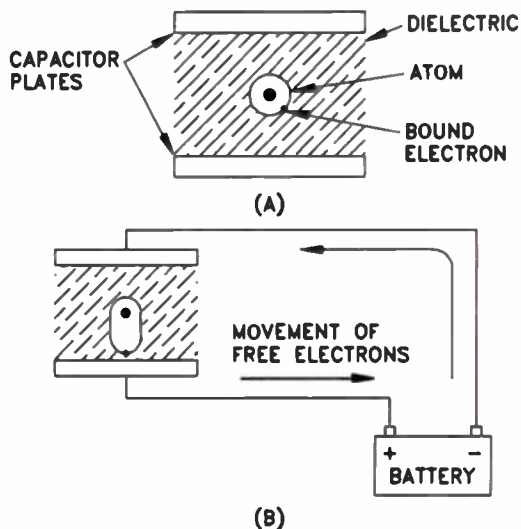

Figure 6. Shifting paths of the electrons in the dielectric.
Figure 6(A), on the next page, shows the plates of a capacitor before they are charged. Between the plates is an atom with electrons going around the nucleus in a circular path. Figure 6(B) shows